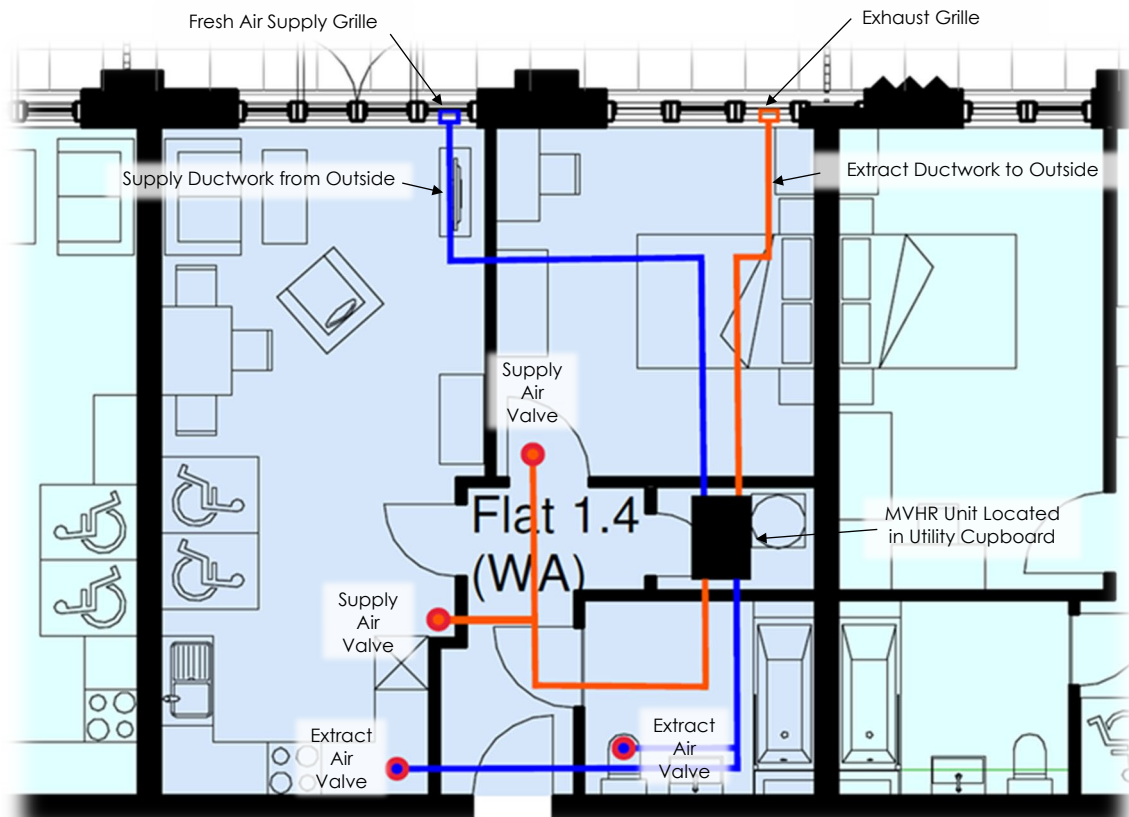

Figure 2: MVHR Arrangement for Typical Flat
10. A preliminary, outline general arrangement for an MVHR system for a typical flat is presented in **Figure 2** below.